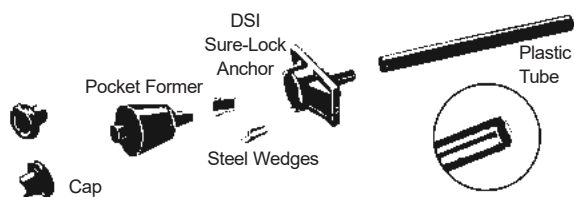

Figure 17: Single strand system
- Single strand tendons held by split conical wedges in individual anchorage castings (Figure 17).